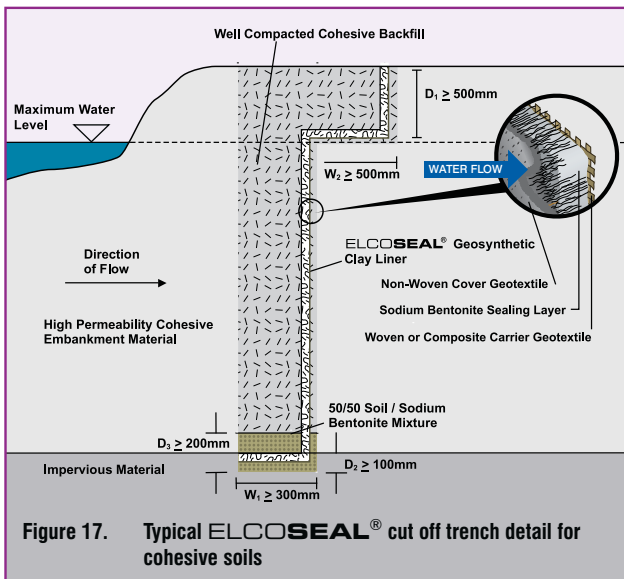

Figure 17. Typical ELCOSEAL® cut off trench detail for cohesive soils
- Cut-off trenches using ELCOSEAL® GCL in cohesive soil are typically constructed as shown in Figure 17.